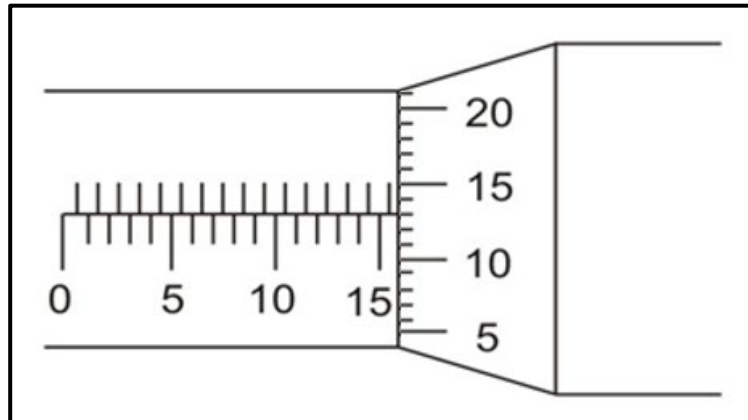

FIGURE 7.2
- 7.2 Determine the reading of the outside micrometer shown in FIGURE 7.2 below.